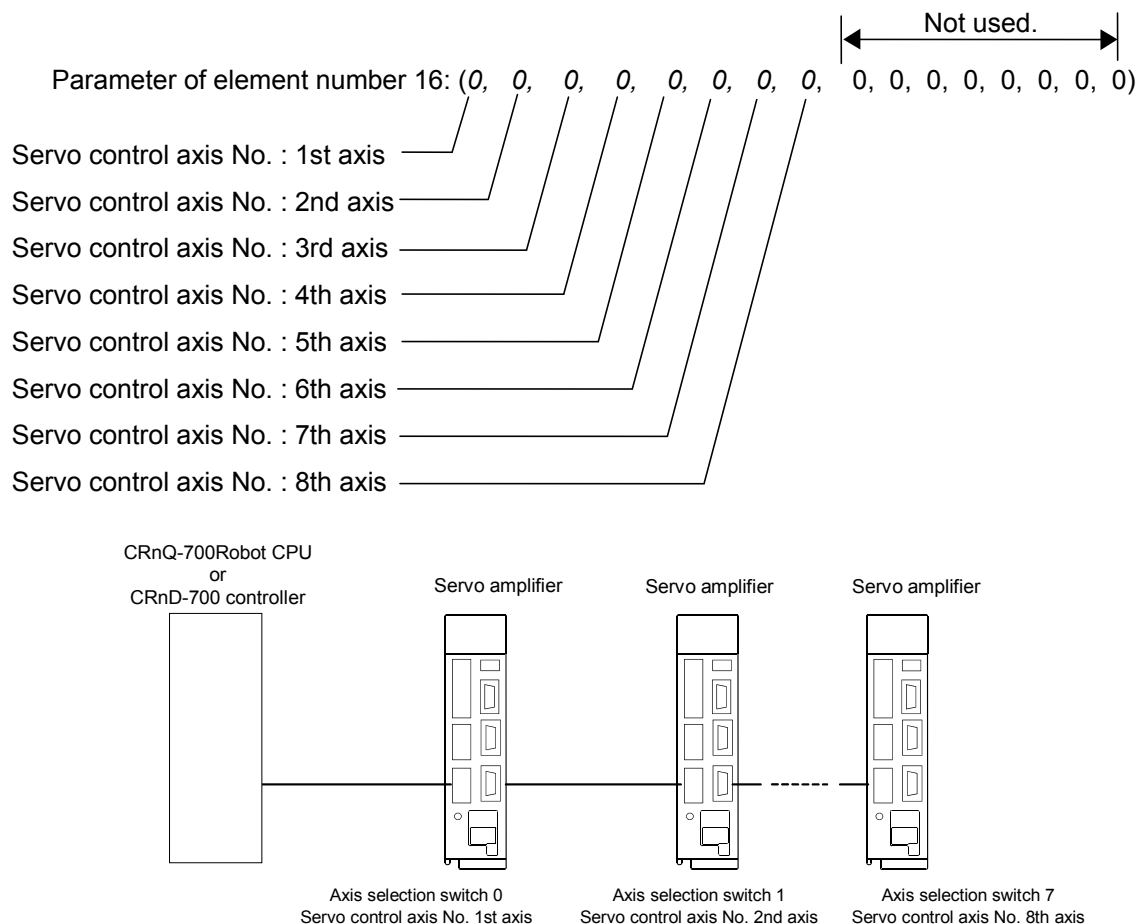

Fig. 8.2.1 Control No. and parameter element of servo
- (3) AXJNO (Setting axis No.)
- (4) AXUNT (unit system)
- (5) AXSPOL (motor rotation direction)
- (6) AXACC (acceleration time) · AXDEC (deceleration time)
- (7) AXGRTN (total speed ratio numerator) · AXGRTD (total speed ratio denominator)
- (8) AXMREV (rated rotation speed) · AXJMX (maximum rotation speed) · AXENCR (encoder resolution)
- (9) AXJOGTS (JOG smoothening time constant)
- (10) MEJAR (joint operating range)
- (11) USERORG (user designated origin)
- (12) About the User Definition Area
Moreover, the parameter elements of (2) to (9) correspond to the control axis Nos. of the servo as shown in "Fig. 8.2.1 Control axis No. and parameter element of servo". If any personal computer support software (which enables the program editing, parameter setting, various monitors and so on of the robot) is used, (10) and (11) are the mechanical parameters and the others are arranged in the common parameters.